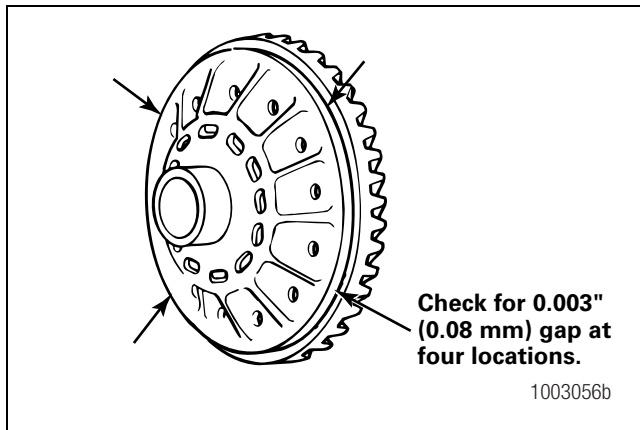

Figure 5.39
7. Use a 0.003-inch (0.08 mm) feeler gauge to check for gaps between the back surface of the ring gear and the case flange. Check for gaps at four points around the assembly. Figure 5.39.